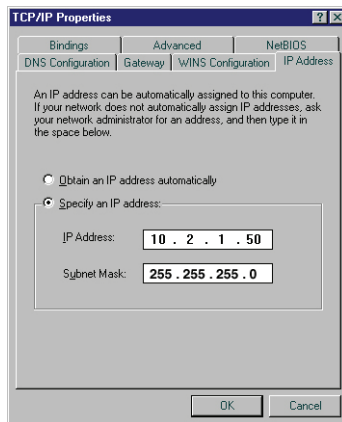

Figure 9. TCP/IP Properties dialog box
2. In the 'The following network components are installed' window, highlight **TCP/IP** and then click the **Properties** button to display the TCP/IP Properties dialog box (Figure 9).
3. Click the **Use the following IP Address** radio button and enter an IP Address and Subnet mask for your PC. You can use an IP address that is one digit off from the customer supplied IP Address you will assign to the console's TDIM Module. For example, if the IP Address for the TDIM Module is 10.2.1.51, you would enter 10.2.1.50 for the PC's IP Address. You also need to enter a Subnet mask. Use the same Subnet mask that is shown in Figure 9 above (255.255.255.0).
Note: Prior to reconnecting your PC to a network, you will need to select the **Obtain an IP address automatically** radio button as shown in Figure 9 above.